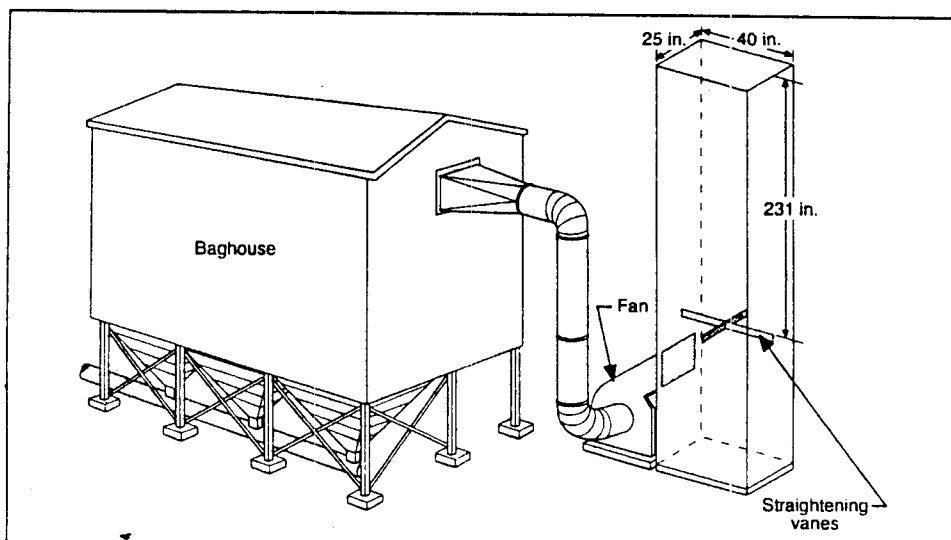

Figure D-1. Sampling site
- Figure D-1 represents a duct to be sampled using the Method 5 sampling train. Using Method 1 guidelines, calculate the equivalent diameter of the duct, select the best sampling site, sample port entry number, and sampling point number. (The plant will weld on threaded 3 in. diameter, 6 in. long steel pipe nipples at sample ports.)